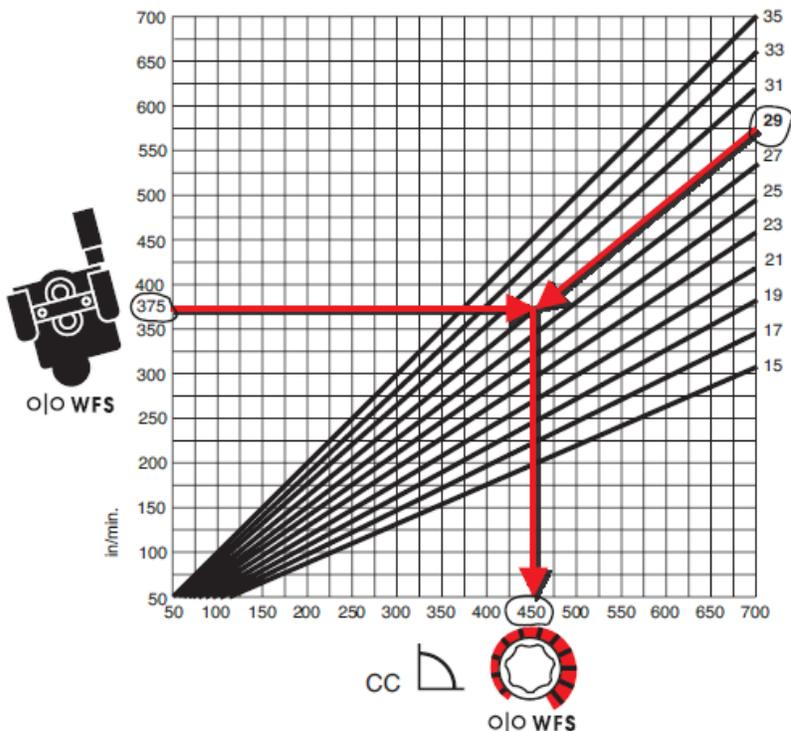

Figure 10
2. Refer to the Figure 10 graph for the setting for the wire feed speed knob setting. Select the horizontal line representing the Desired Wire Feed Speed. (See Figure 10 arrow for 375 in/min.)
3. Select the diagonal line representing the Arc Volts. (See Figure 10 for 29 volts.)
4. Determine the vertical line representing the CC representing the CC Wire Feed Speed setting where the above two lines cross. (See Figure 10 arrow line for 450.) Set the LN-25™ Pro wire feed speed knob to this value.
(See Figure 10)